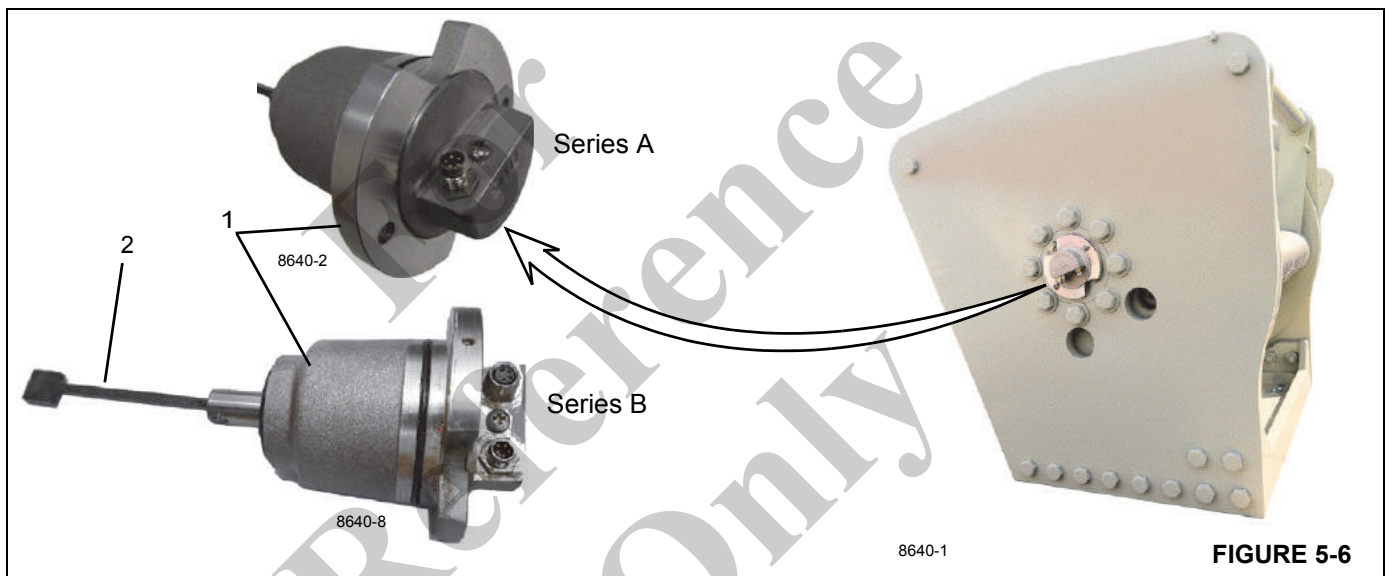

FIGURE 5-6
4. Insert the DRI into the drum. Rotate the DRI (1, Figure 5-6) so that the DRI shaft (2) engages the drive inside the drum.